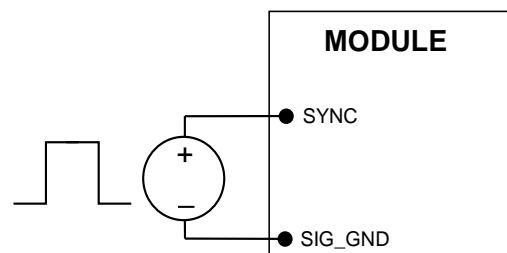

Figure 35. External source connections to synchronize switching frequency of the module.
The module switching frequency is capable of being synchronized to an external signal frequency within a specified range. Synchronization is done by using the external signal applied to the SYNC pin of the module as shown in Fig. 35, with the converter being synchronized by the rising edge of the external signal. The Electrical Specifications table specifies the requirements of the external SYNC signal. If the SYNC pin is not used, the module should free run at the default switching frequency.
1. By allowing the user to select among several pre-tuned compensation choices to select the one most suited to the transient response needs of the load. This selection is made via a resistor R_{TUNE} connected between the R_{TUNE} and SIG_GND pins as shown in Fig. 35. Table 2 shows various pre-tuned compensation combinations recommended for various external capacitor combinations.